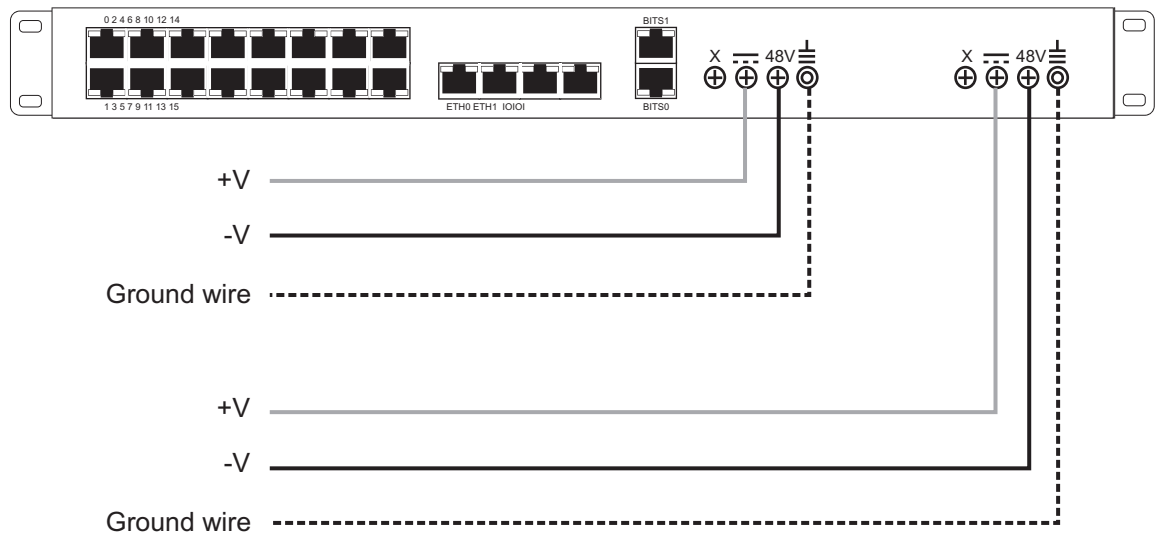

Figure 2.34 DC wiring diagram
1. Connect a ground wire to the ground lug located at the rear of the TMG7800-TMS, as shown in figure 2.34 on page 43.